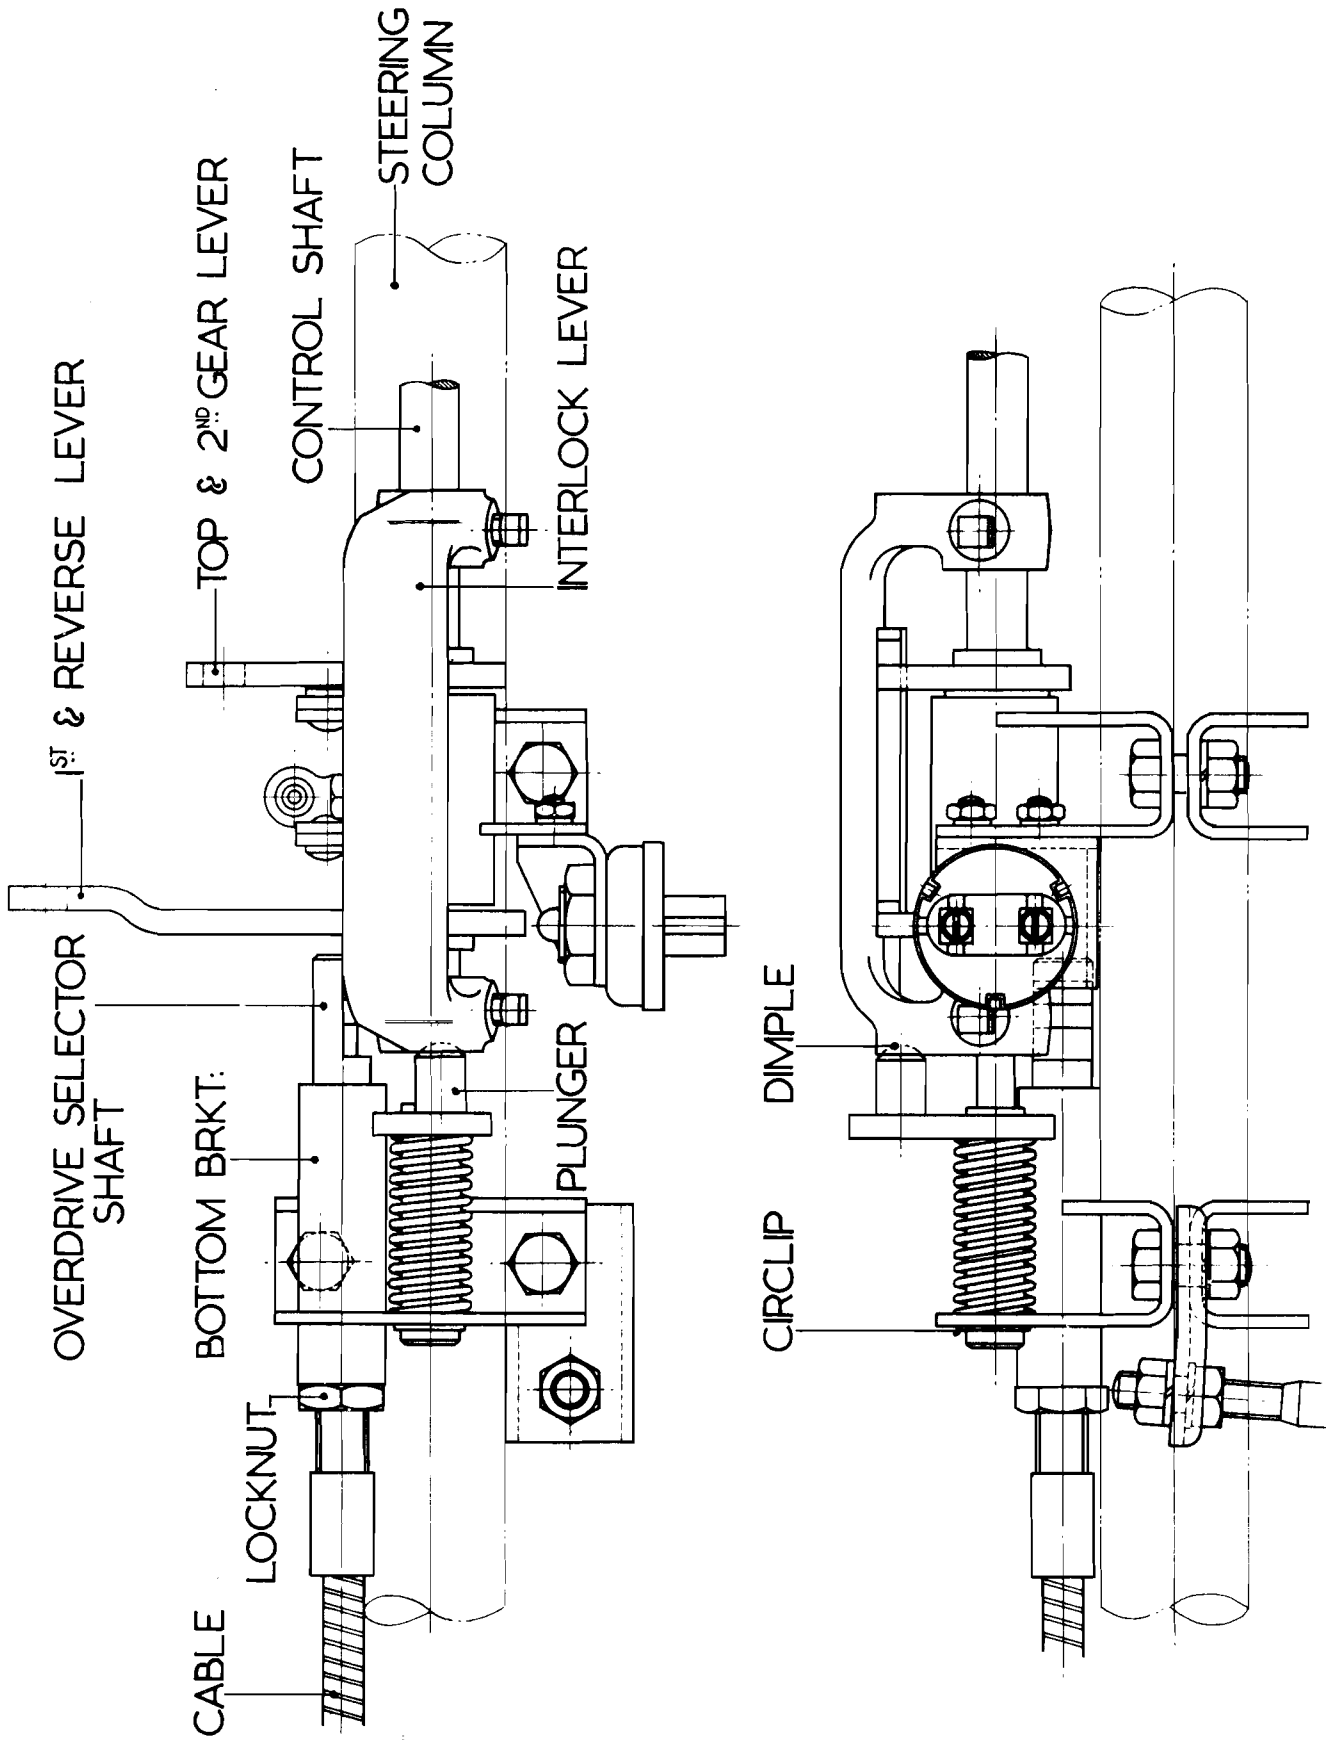

Fig. 16. Showing interlock and plunger assembly for L.H. steering models.
5. Slide the overdrive selector shaft (see Fig. 16) into its innermost position in the bottom bracket and screw the inner portion of the control cable into this shaft approximately  $\frac{1}{2}$ ".
7. Feed the bottom bracket on to the steering column threading the control shaft (Fig. 16) through the plunger assembly.
8. Fit the bottom clamping bracket (Fig. 16) loosely and tap bracket upwards until the plunger just enters the dimple on the lower face of the interlock lever and the circlip just touches the bracket (see Fig. 16). Any space between the circlip and the bracket indicates too much spring pressure.